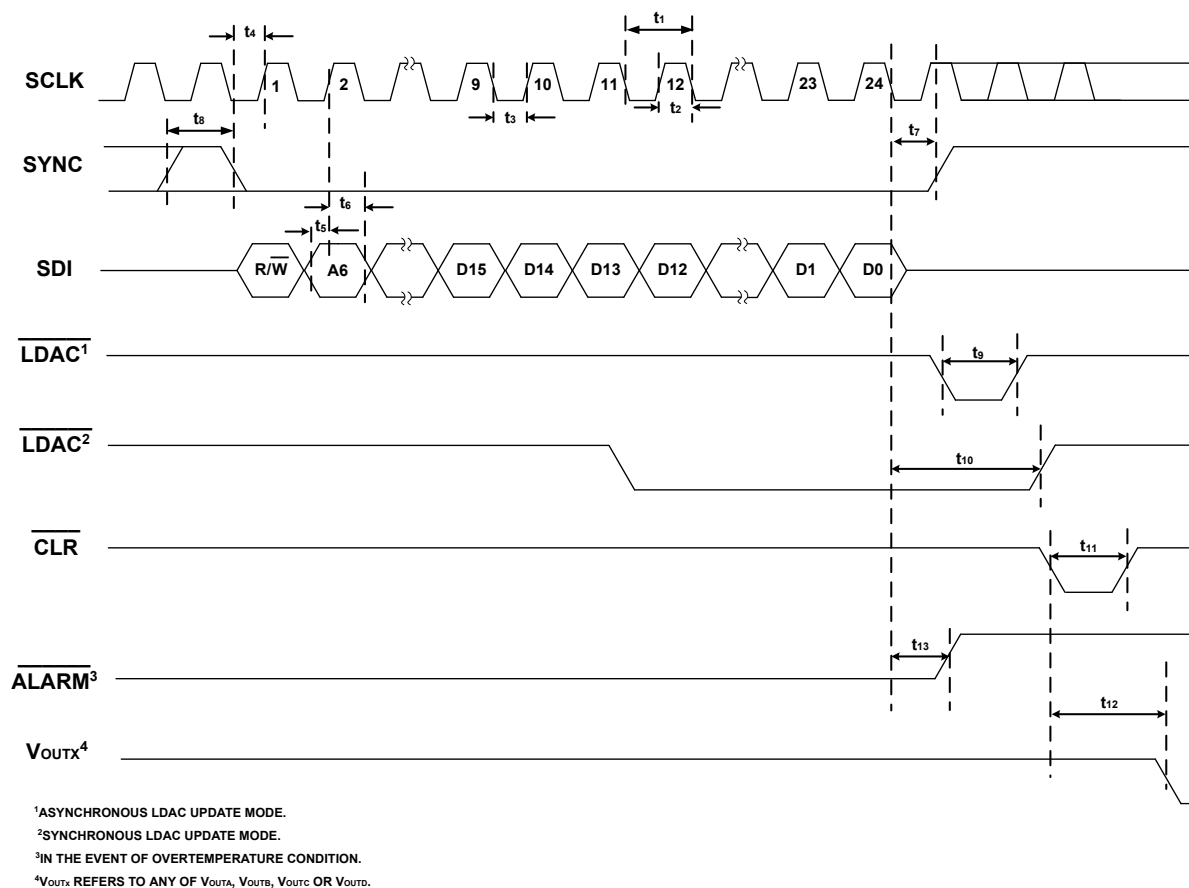
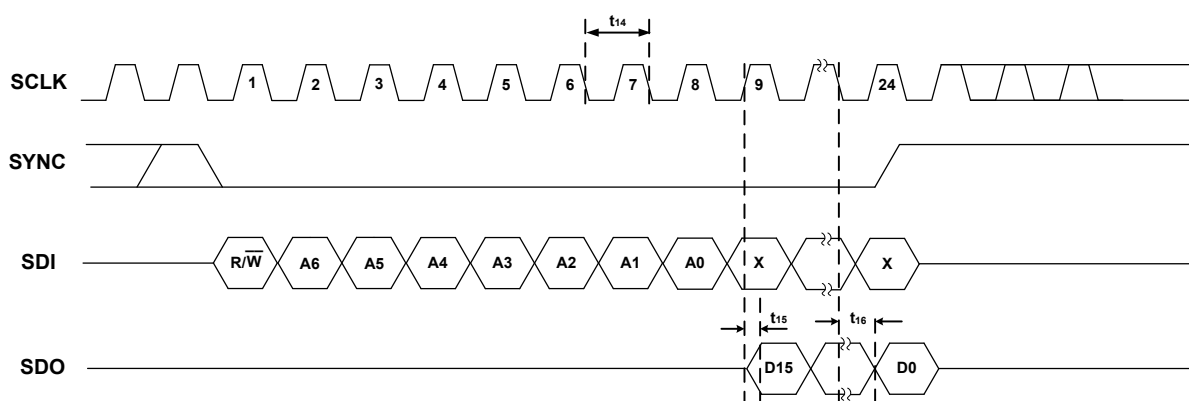

Figure 1. Write Timing Diagram
Figure 2. Read Timing Diagram
(1) Guaranteed by characterization; not production tested.
(2) All input signals are specified with $t_R = t_F = 5$ ns (10% to 90% of DVCC) and timed from a voltage level of 1.2 V.
(3) See Figure 1 and Figure 2.
(4) CL SDO = capacitive load on SDO output.